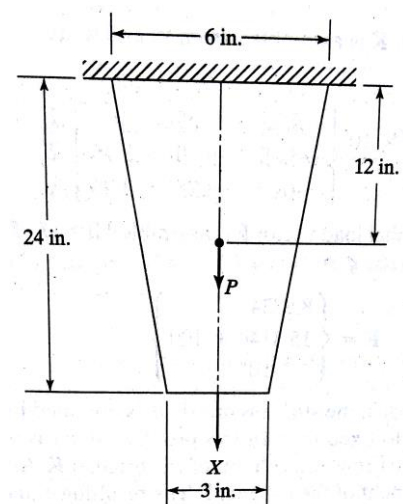

Fig. 2.
- (c) Consider the thin (steel) plate as shown in **Fig. 2**. The plate has a uniform thickness $t = 1$ in., young's modulus $E = 30 \times 10^6$ psi, and weight density $\rho = 0.2836$ lb/in³. In addition to its self-weight, the plate is subjected to a pint load $P = 100$ lb at its mid point. **07**